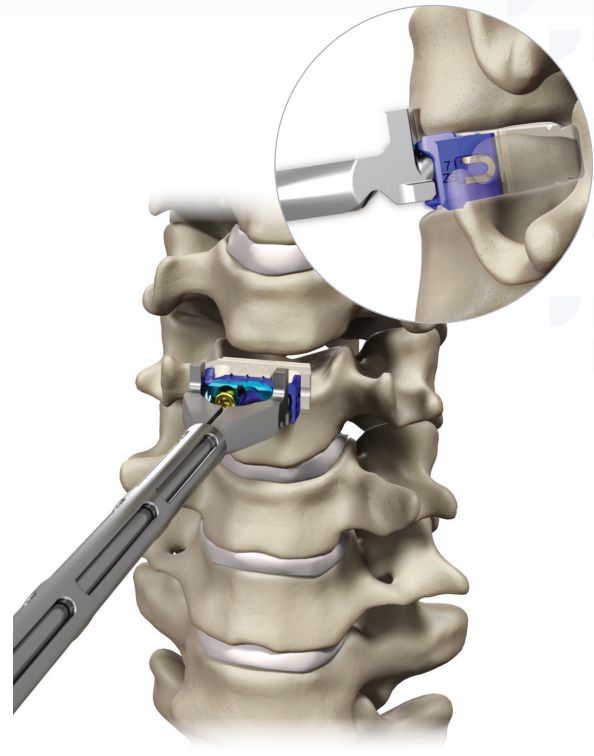

Figure 38
- Once the implant is attached securely to the inserter, insert the implant into the distracted segment. If necessary, use light impaction to advance the plate into the disc space (Figure 38).